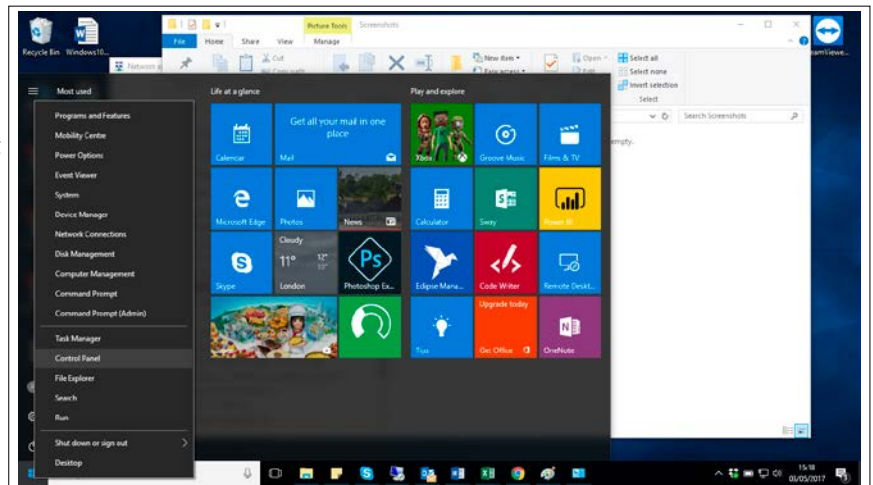

Fig. 1 Open control panel
1. In order to install the videophone, it is necessary to remove the cover, which contains all the electronics, from the base: firstly disconnect the handset from the videophone (by removing its plug from the videophone) then insert a 5.5mm flat screw driver into the clip (A) then rotate clockwise until you listen a "CLICK!". Repeat the same operation with the other clip as shown in Fig. 1.